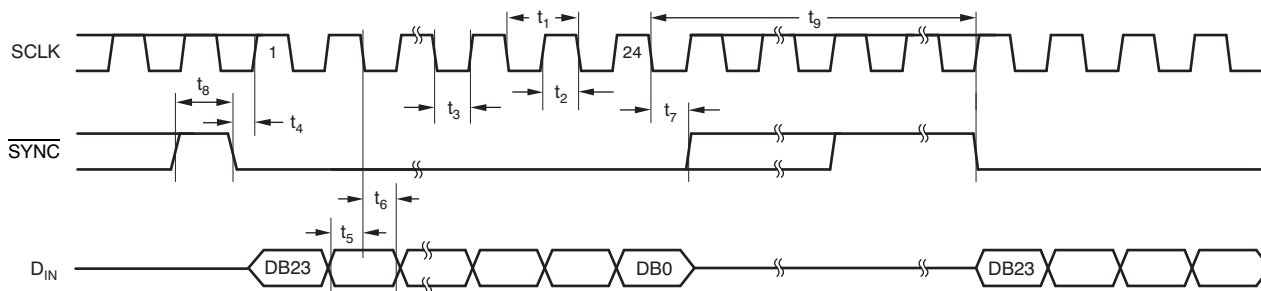

Figure 1. Serial Write Operation
- (1) All input signals are specified with $t_R = t_F = 5\text{ ns}$ (10% to 90% of V_{DD}) and timed from a voltage level of $(V_{IL} + V_{IH}) / 2$.
- (2) See Figure 1.
- (3) Maximum SCLK frequency is 30 MHz at $V_{DD} = 3.6\text{ V to }5.5\text{ V}$ and 20 MHz at $V_{DD} = 2.7\text{ V to }3.6\text{ V}$.